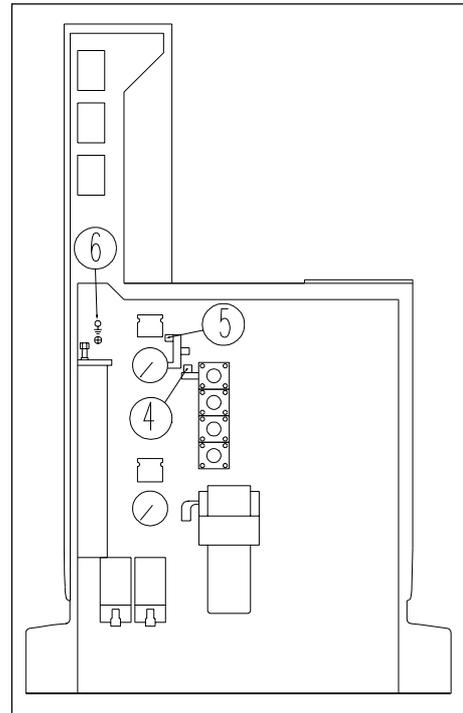

Figure 3. Open unit, seen from mechanical side.
- 9) Press the green tube on the water manifold (4) and the blue tube on the air filter (5), see Fig. 3.
- 10) Connect the earth wire (yellow/green) to the stand at (Fig. 3 (6)).